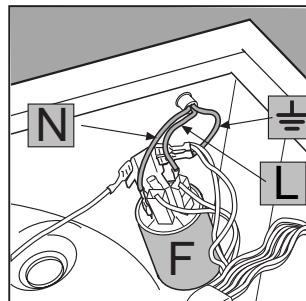

Fig. 4
- Disconnect the wires from the radio interference suppressor **F** [fig. 4] noting as to their position (**Blue=N** wire; **Brown=L** wire) leaving the earth wire until last **±**.